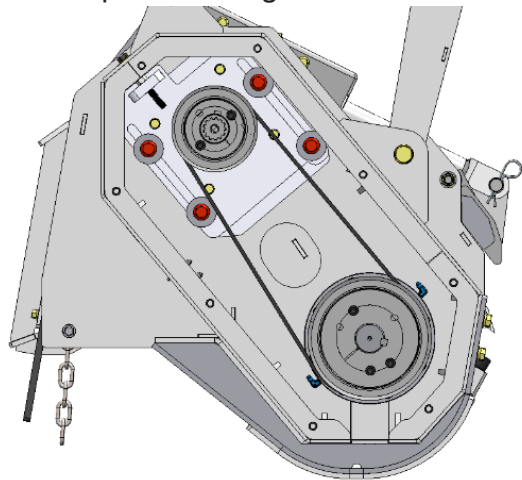

Figure 14
2. Loosen four (4) bolts on the hydraulic motor tensioner plate. See Figure 14.